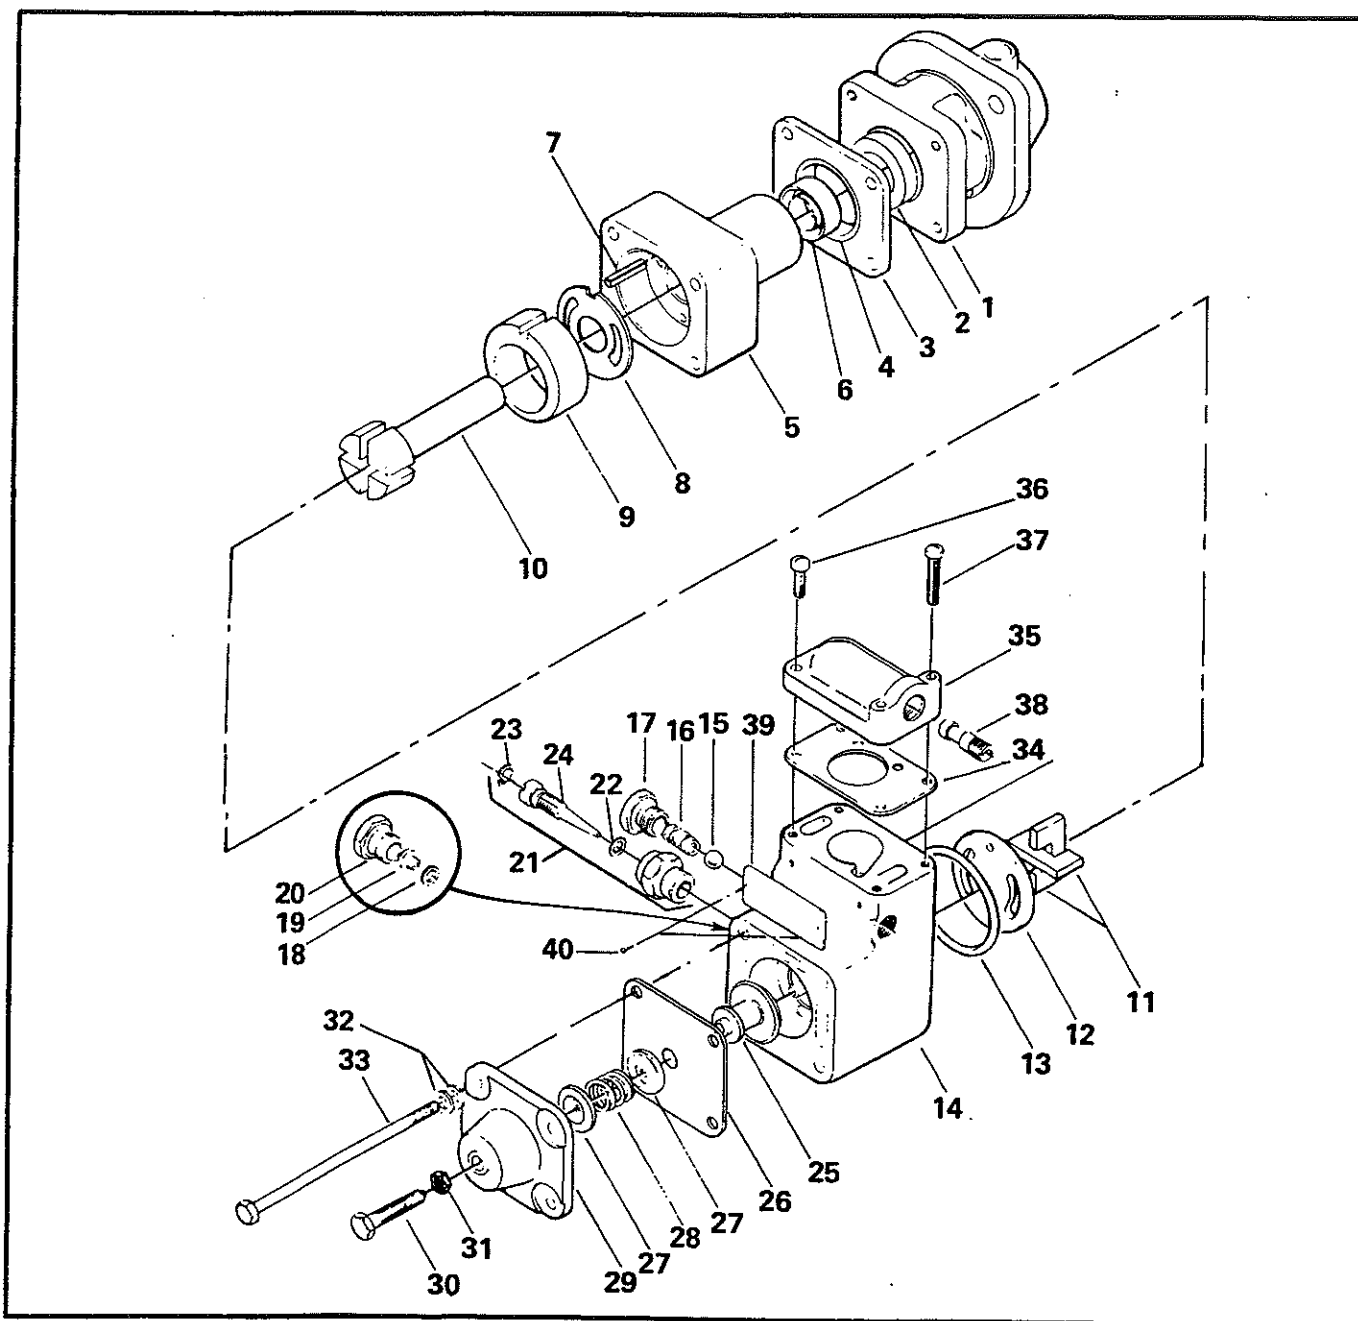

FIGURE 30-01. FUEL PUMP ASSEMBLY.
A. Place pump in suitable fixture and remove all lockwire; and fittings if necessary. Refer to exploded view (Figure 30-01) and proceed as follows: Loosen pressure regulating screw (30) to relieve pressure on relief valve spring. Remove four bolts (33) and washers (32) and carefully separate parts (29 and 14), being careful not to damage parting surfaces. Remove plates (27) and spring (28). Diaphragm (26) should be removed and discarded at this time. Remove plunger (25), being careful not to damage face.
B. Remove plug (17), spring (16) and ball (15) from body (14). Remove plug (20), jet (19) and gasket (18) or adjusting needle (24), "O" ring (22) and plug (21) from body. Remove screws (36) and (37) from vapor separator cover (35) and remove gasket (34). Remove ejector (38) from cover.
A. Reassemble basic pump (5 through 13) in reverse order of disassembly. Refer to Figure 30-01 and install seal (6) in body (5). Install pin (7), plate (8) and liner (9) in body (5). Plate (8) may be reused by turning over if not worn from previous overhaul. Be sure liner is installed with proper rotation lettering visible. Use light machine oil to lubricate shaft (10) and install in pump. Install blades (11) in position and lubricate lightly. Install plate (12) and seal (13) to complete basic pump assembly. Install seal (2) in adapter (1). Install insulator (3) and bushing (4) on pump assembly and insert into adapter assembly.